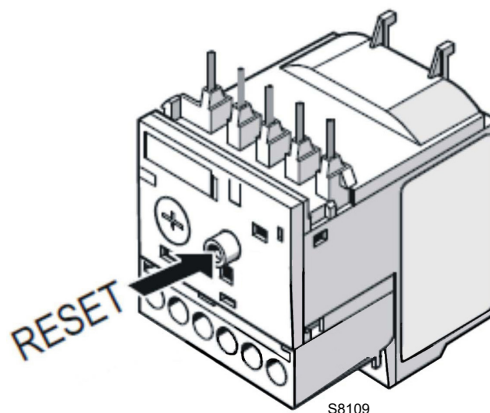

Fig. 40
- To reset, in the case of an intervention of the thermal relay, press the button **“RESET”** (Fig. 40).